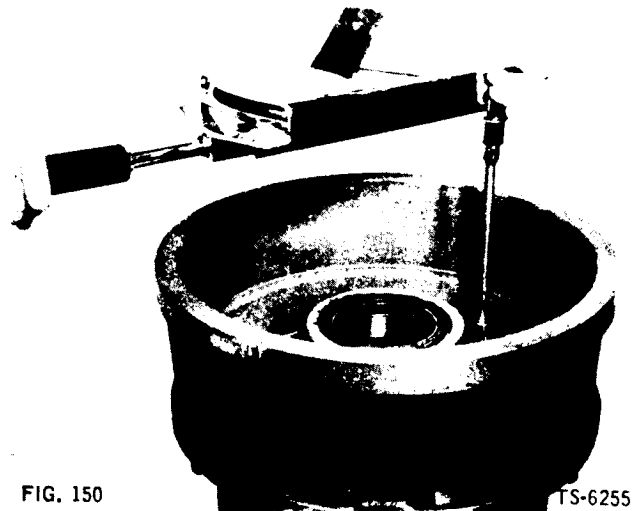

FIG. 150
- 6. Position brake drum on hub. Install bolts and flat washers. Tighten bolts to torque specifications (Fig. 150).